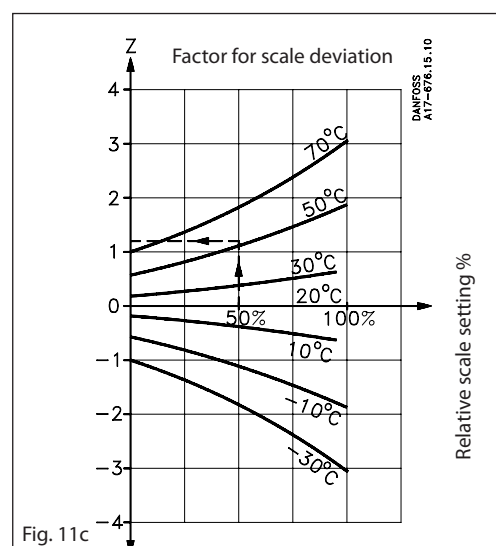

Fig. 11c
$Z$  can be found from fig. 11c, while  $a$  is the correction factor from the table.
Factor for scale deviation (see fig. 11c): +1.2 (Z)